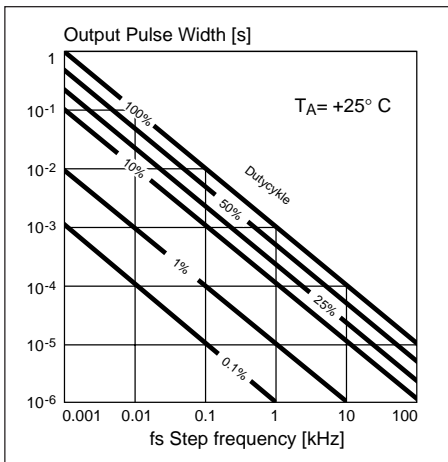

Figure 9. Typical  $t_{on}$  vs.  $f_s/dc$ . Output pulse width vs. step frequency/duty cycle.
- Figures 9 and 10 give the relationship between motor currents and their dissipations.
- When no bilevel or voltage doubling is utilized, the maximum motor current can be found directly in figure 9.